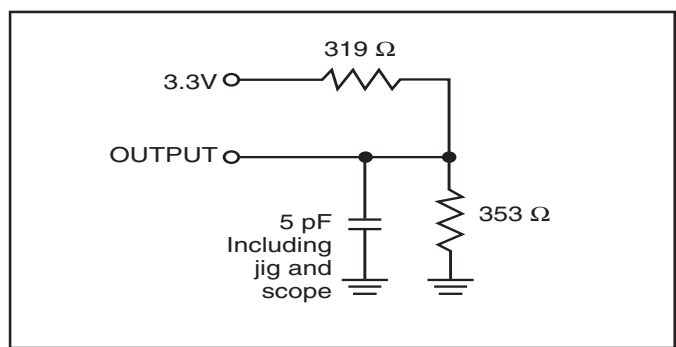

Figure 2.
2. Tested with the load in Figure 2. Transition is measured ±500 mV from steady-state voltage.
2. Tested with the load in Figure 2. Transition is measured ±500 mV from steady-state voltage. Not 100% tested.
2. Tested with the load in Figure 2. Transition is measured  $\pm 500$  mV from steady-state voltage. Not 100% tested.